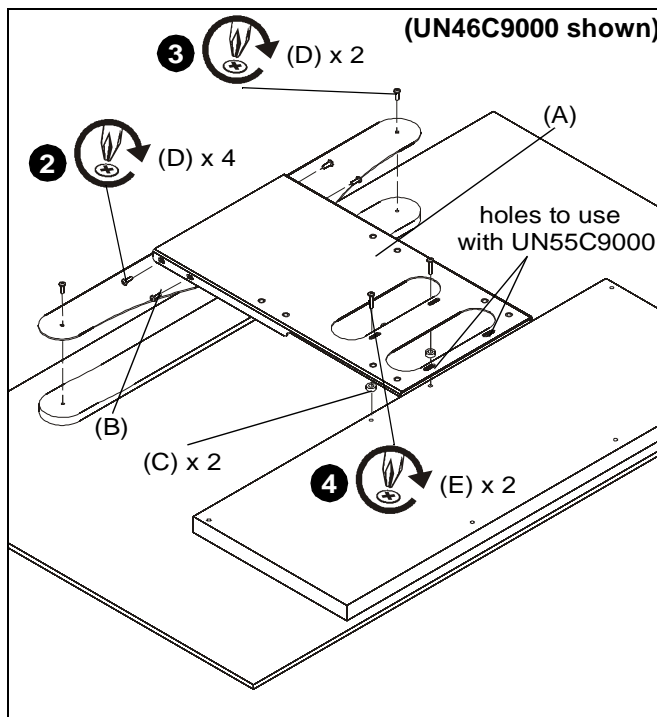

Figure 1
2. Loosely attach upper adapter bracket (A) to lower adapter bracket (B) using four M4x12mm Phillips pan machine screws (D). (See Figure 1)
3. Attach upper adapter bracket (A) to display using two M4x12mm Phillips pan machine screws (D). (See Figure 1)
4. Attach lower adapter bracket (B) to display using two M4x20mm Phillips pan machine screws (E) and two spacers (C). (See Figure 1)